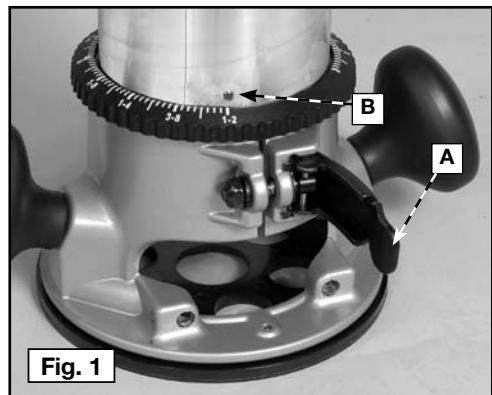
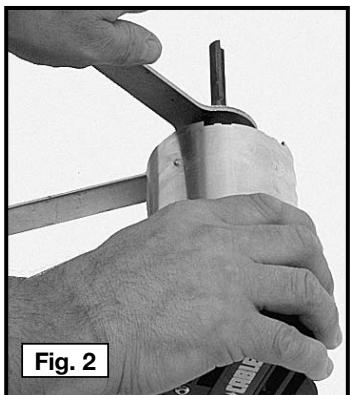

Fig. 1
Fig. 2
- (a) Open the clamp (A) Fig. 1.
- (b) While holding the base, turn the power unit COUNTER-CLOCKWISE until the lower pin (B) in the motor housing is disengaged from groove in base.
4. Place one wrench on the flats of the chuck with the opposite end of the wrench resting on the bench to your left (Fig. 2).
1. Open the clamp (A) Fig. 1 and set the power unit in the base unit.
2. Align the lower pin of the power unit (B) Fig. 1 with the groove in the base.